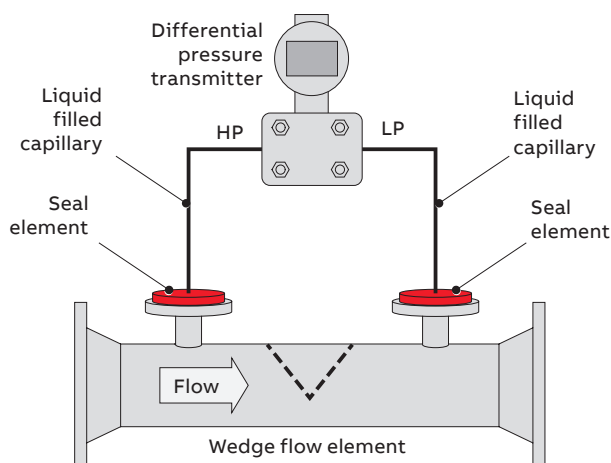

Figure 6 Flow measurement – placing of seals upstream and downstream of a flow restriction
Differential-pressure transmitters with two remote seals can measure flowrates in horizontal or vertical lines. Figure 6 shows a horizontal installation, the transmitter connected across the differential-producing (wedge) flow element. The upstream seal links to the transmitter high side (HP), the downstream one to the low side (LP).